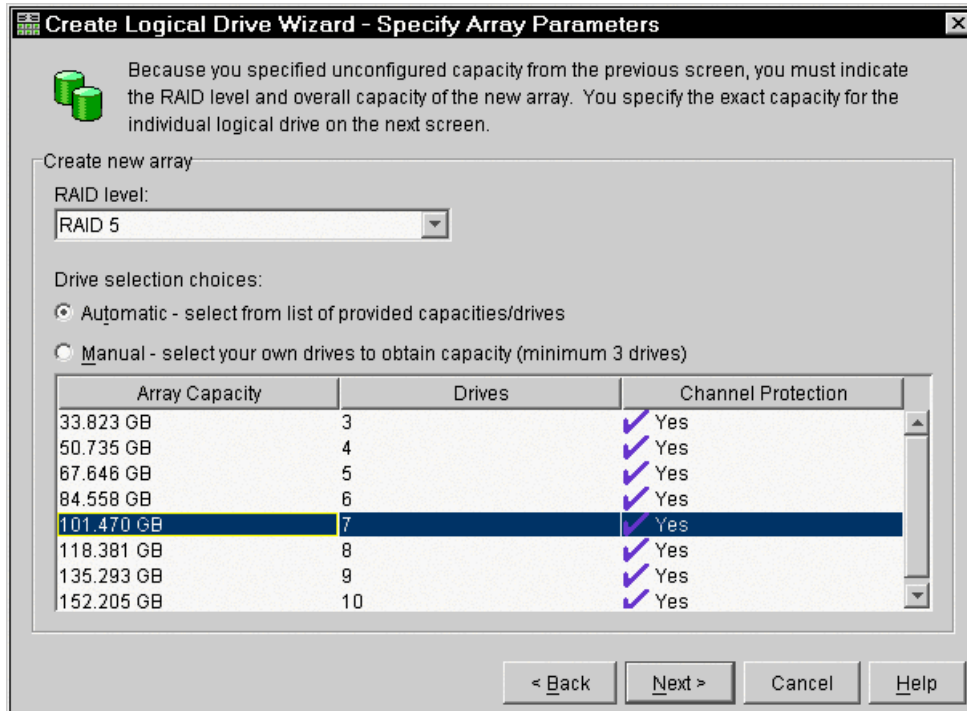

Figure 4-33 Choosing the drives used for the new array
3. Choose the RAID level and number of drives that are used for the array (see Figure 4-33). There are two possibilities for the drive selection. You can choose each drive manually. For this, you need to switch to the *Manual* drive selection option. Be sure that you consider performance and availability concerns when you choose the drives manually.